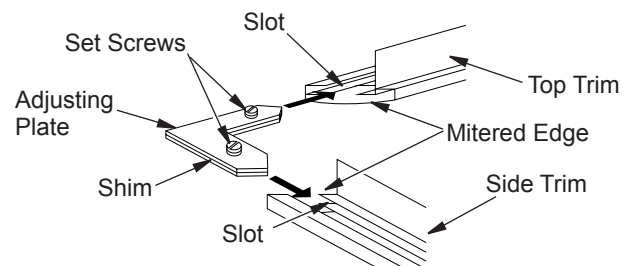

Figure 8 - Assembling Trim
3. Align shim under adjusting plate as shown in Figure 8.
4. Slide one end of adjusting plate/shim in slot on mitered edge of top trim (see Figure 8).
5. Slide other end of adjusting plate/shim in slot on mitered edge of side trim (see Figure 8).